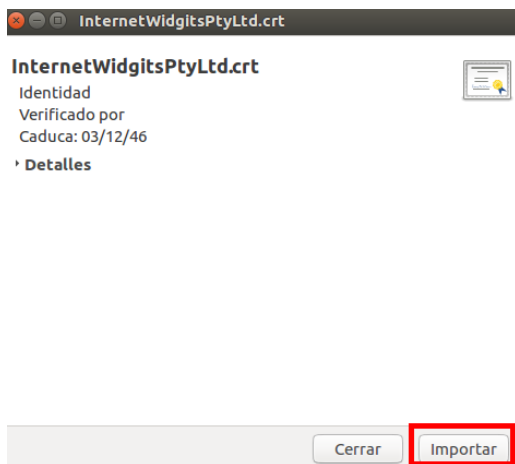

Fig. 22. 'Import ...' screen.
- Save and download the file to the desired location, then run it. It will appear a screen similar to the one shown in Fig. 22. Click on 'Import...'